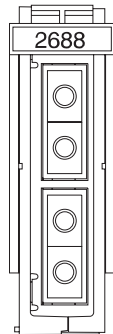

Figure 11. 2688 OLP card
- ___ 2. Locate the 2688 OLP card (Figure 11) on the back of your system unit.